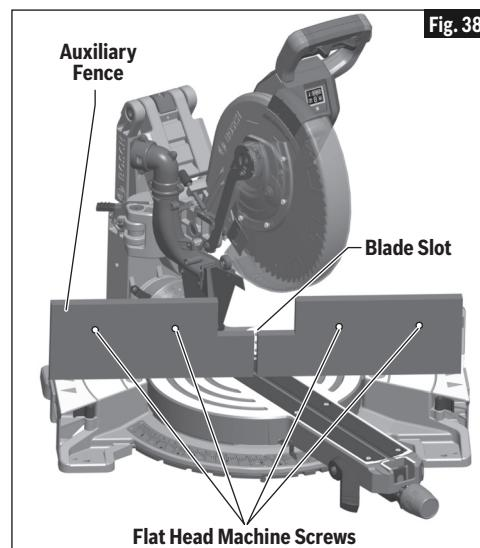
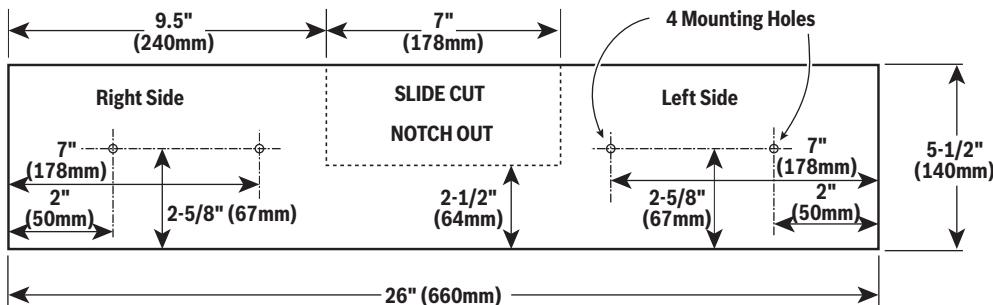

Fig. 38
Fig. 39 | Auxiliary Wood Fence - 3/4" (19mm) Thick
1. Place a piece of wood against the miter saw fence (see Fig. 38). Wood can have a maximum height of 5-1/2" (140mm). Check that auxiliary fence assembly does not interfere with head assembly. See dimension drawing – Fig. 39.
4. Fasten from front of fence: Attach (each) auxiliary fence using two (2) 3/16" (M5) flat head machine screws. With 3/4" (19mm) auxiliary fence, use 1-1/2" (38mm) long screws. Secure behind metal fence with washer and machine nuts.
**WARNING** Be aware of the path of the saw blade. Make a dry run with the saw Off by conducting a simulated cutting cycle, and observe the projected path of the saw blade. Keep hands at least six (6) inches (152mm) away from the projected path of the saw blade.
7. When making slide cuts, the center must be notched out per pattern (see Fig. 39).